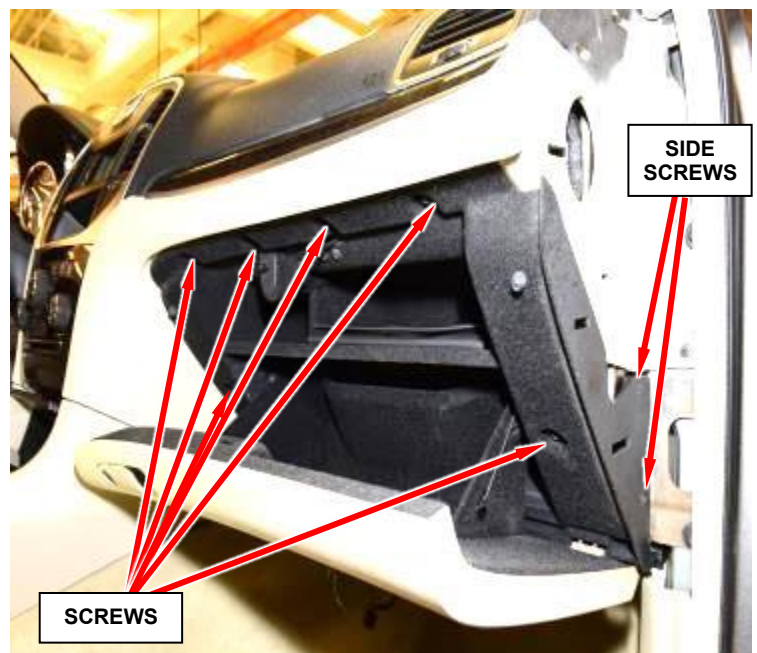

Figure 9 – Glove Box Compartment
- f. Remove the two side screws from the glove box compartment (Figure 9).
- g. Remove the six screws from the glove box compartment (Figure 9).